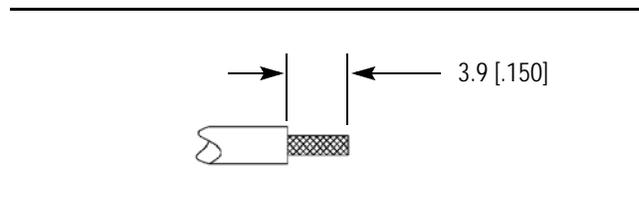

Figure 3
2. Trim outer sheath to dimension shown in Figure 3.